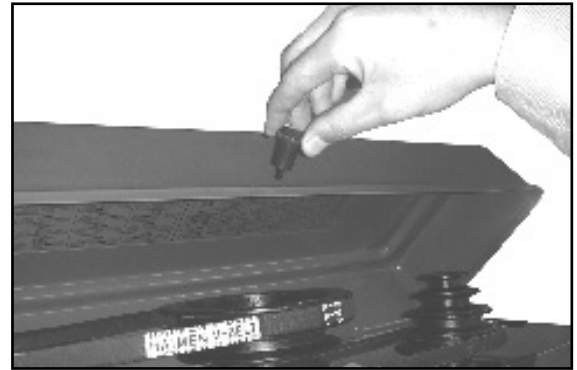

Figure 5
4. To install the belt cover Knob (#12C), open the belt cover and insert the Phillips head screw through the hole in the center from the inside. Thread the handle on the outside of the belt cover and tighten in place with a screwdriver (Figure 5).